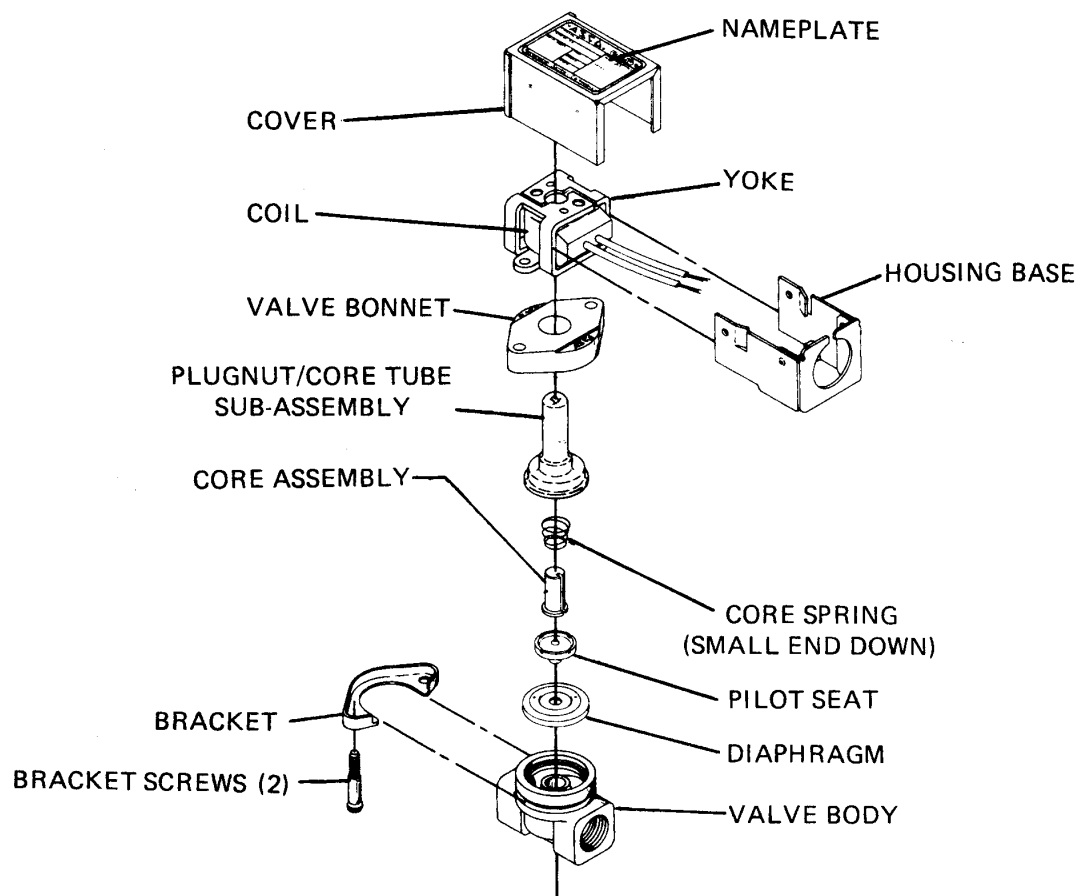

Fig. 8 - 4, Air Solenoid, Exploded View
- 2.) Remove the old coil assembly from the bad solenoid by loosening the two bracket screws and lifting it off. The coil assembly includes the: diaphragm, pilot seat, core assembly, core tube etc. When complete, only the valve body should remain. (See Fig. 8 - 4)